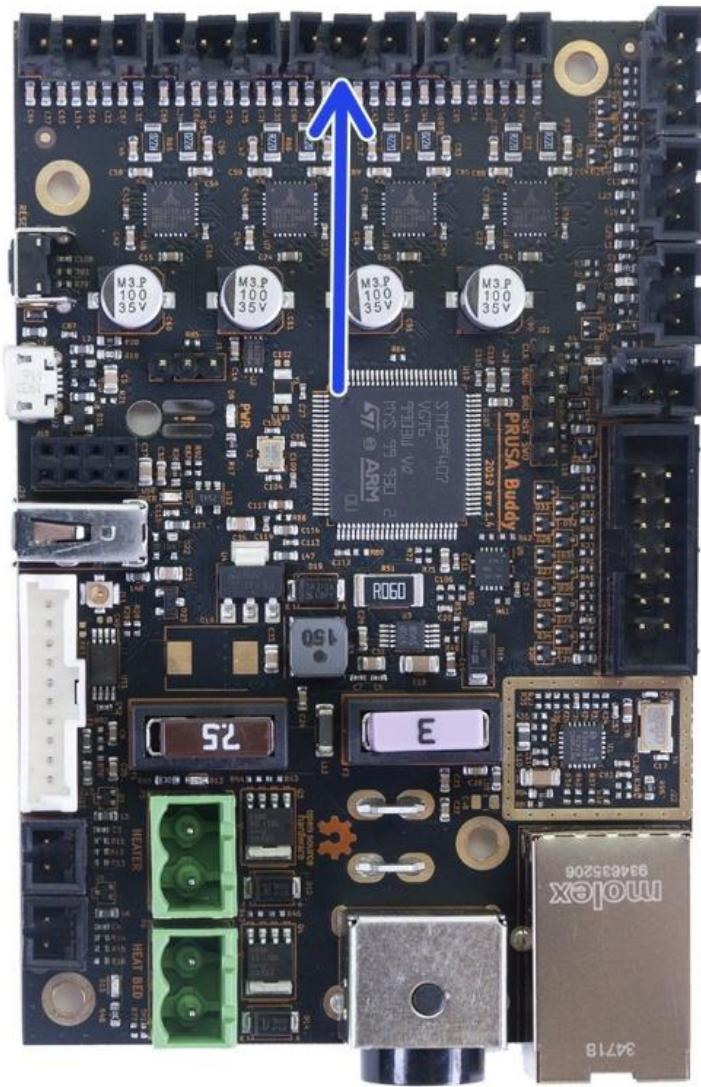

Figure 5.1.27
**B:** As shown in Figure 5.1.27. Connect the connector to the appropriate socket. See the picture for more detail.